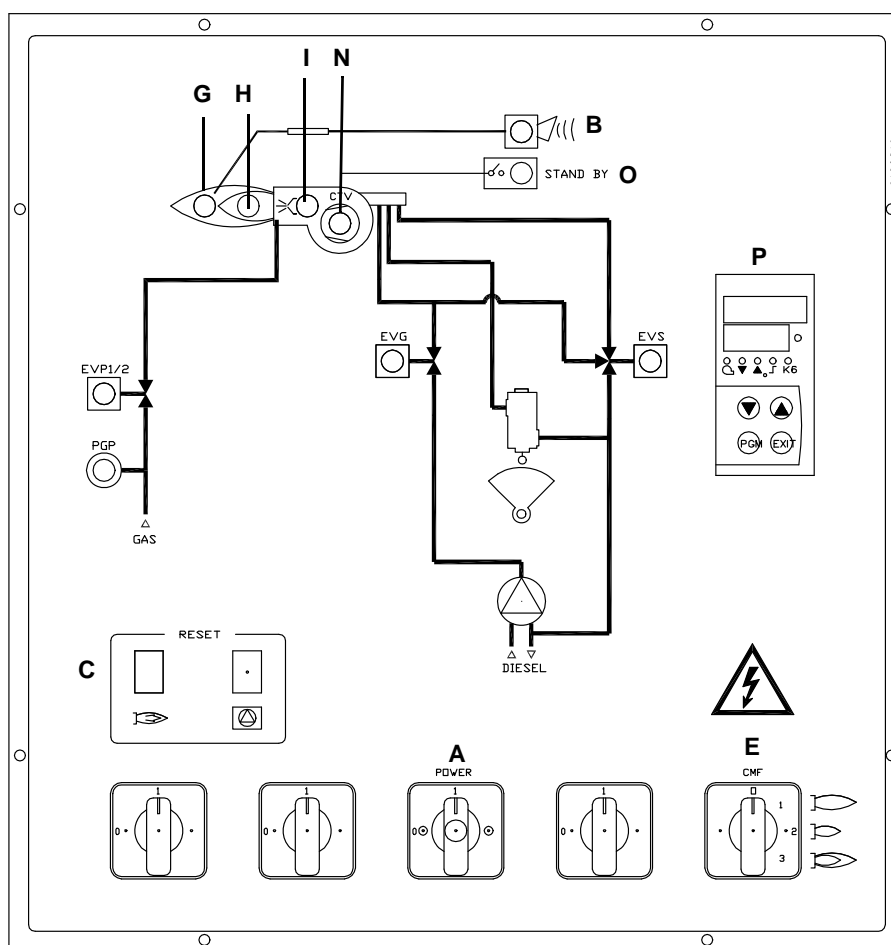

Fig. 19
- 9 the nozzle supply pressure is already factory-set and must not be changed. Only if necessary, adjust the supply pressure as follows (see related paragraph); insert a pressure gauge into the port shown on Fig. 19 and act on the pump adjusting screw **VR** (see Fig. 18 and page 15) as to get the nozzle pressure at 25bar (see page 18).